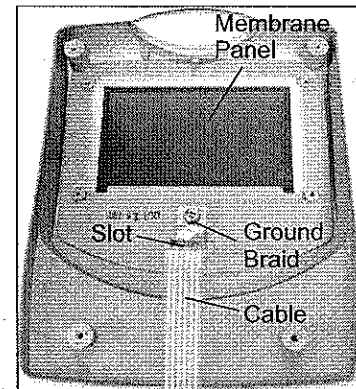

Figure 5-8: Membrane Panel
3. Remove the center Phillips screw with the lock washer and flat washer and lift the ground strap (see Figure 5-8).
3. Slide the Membrane Panel cable and ground braid through the slot in the Front Enclosure (see Figure 5-8).